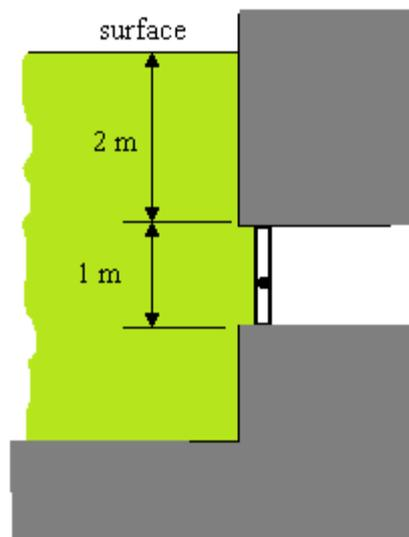

Fig.11
3. A culvert in the side of a reservoir is closed by a vertical rectangular gate 2 m wide and 1 m deep as shown in fig. 11. The gate is hinged about a horizontal axis which passes through the centre of the gate. The free surface of water in the reservoir is 2.5 m above the axis of the hinge. The density of water is  $1000 \text{ kg/m}^3$ .